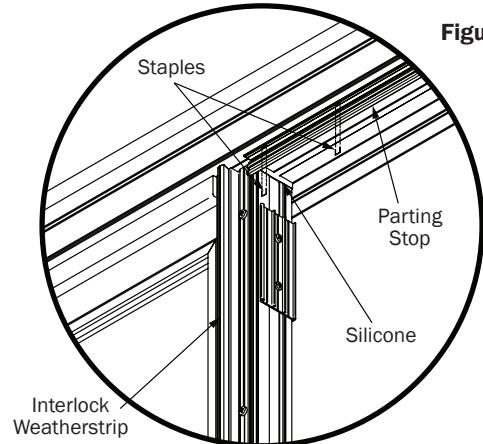

Figure 16
16. Install the weather strip into the Interlock from the top and slide weather strip down to bottom of interlock (Fig. 16).
17. Add a strip of silicone at top corner of stationary panel (Fig. 16).
18. Install the aluminum parting stop into the head jamb. The center of the parting stop should be equal distance from each end of the frame if a 4-Wide unit. Attach 3/8" staples approximately 6" to 8" apart (Fig. 16 & 17).